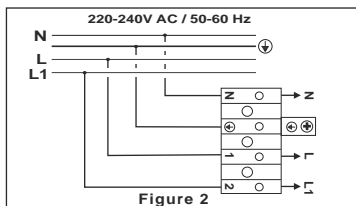

Figure 2
3. Connect the wires to the terminal block according to figure 2.